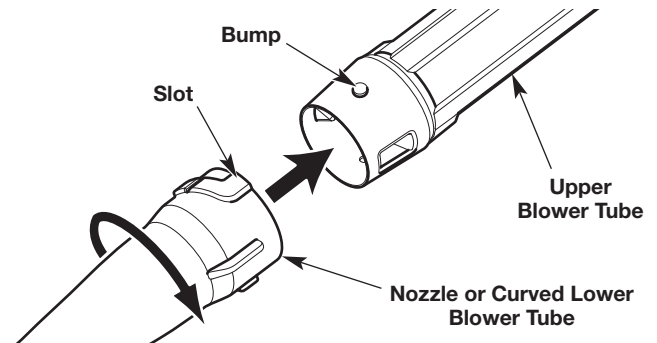
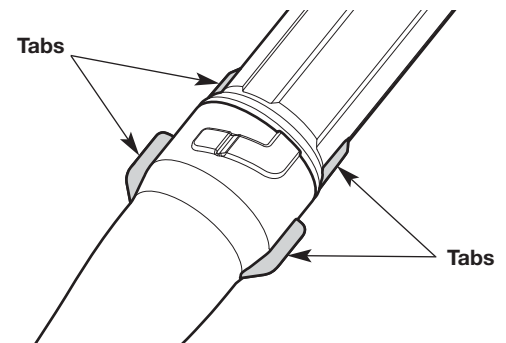

Fig. 2
Fig. 3
1. Align the slots on the nozzle or curved lower blower tube with the bumps on the lower end of the upper blower tube (Fig. 2).
2. Install the nozzle or curved lower blower tube onto the upper blower tube (Fig. 2).
3. While holding the upper blower tube, twist the nozzle or curved lower blower tube clockwise until it locks into place (Fig. 2). The tabs on the upper blower tube should align with the tabs on the nozzle (Fig. 3).